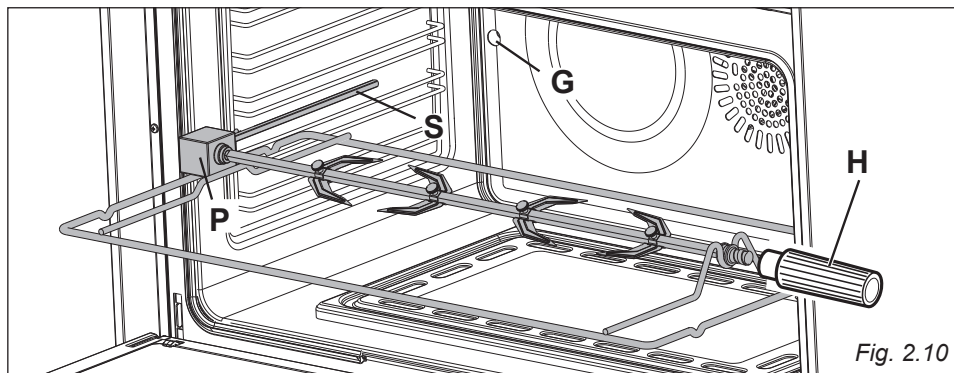

Fig. 2.10
USE OF THE ROTISSERIE (fig. 2.10)
- Insert the rod into the side gear opening "P" (fig. 2.10).